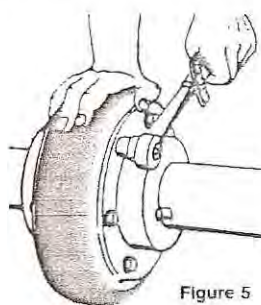
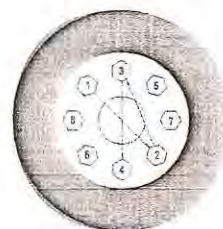

Figure 5
Figure 6
3. Hold split of flexible element closed as shown in Figure 5. Tighten (finger tight) one or two screws 180° from split. Using both hands, knead the tire pulling it toward the split. Hold split closed and tighten (finger tight) next
4. **Optional Procedure:** Hold split of flexible element closed as shown in Figure 5. Tighten (finger tight) one or two screws 180° from split. Using both hands, knead the tire pulling it toward the split. Hold split closed and tighten (finger tight) next two screws in a star or cross pattern as shown in Figure 6. Repeat the procedure on all remaining clamp ring screws. Use a torque wrench to tighten each screw to the torque specified in Table 1. Using a torque wrench, re-check all clamp ring screw torque values before coupling operation.